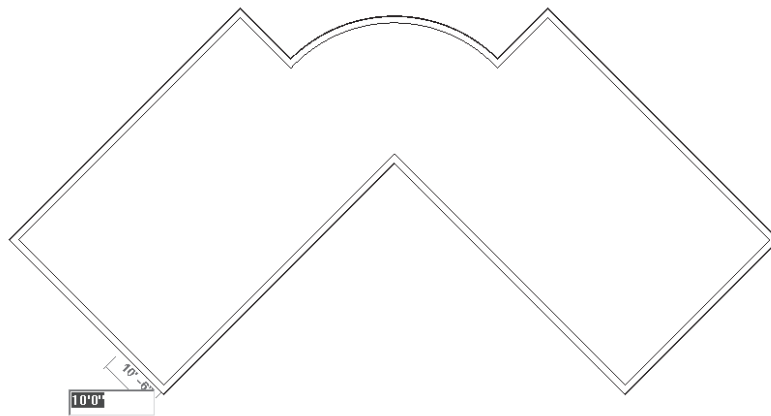

Figure 3-65 Specifying the start point of the first interior wall
- g. Sketch the interior walls based on the given parameters, refer to Figures 3-65 through 3-71.
3. Move the cursor close to the lower left corner of the building profile. When the temporary dimension appears, enter the value **10'0"** to start the interior wall profile from the specified point, as shown in Figure 3-65.